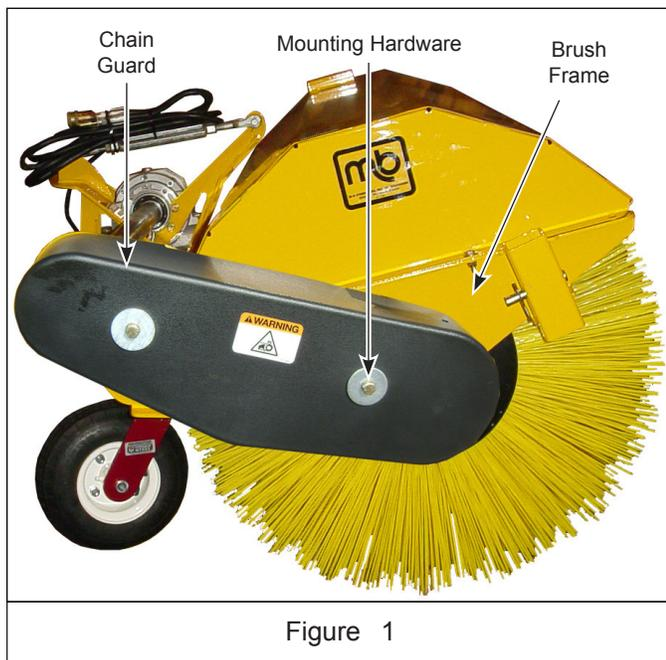

Figure 1
2. Remove (2) 3/8-16 x 1" hex head capscrews, lock washers, flat washers and chain guard from the brush frame. See Figure 1.